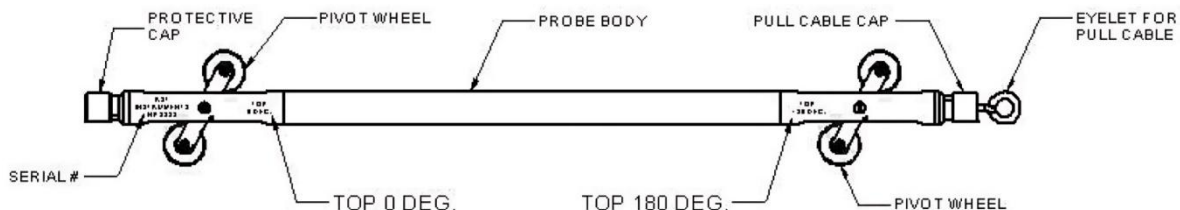

Figure 1: Digital MEMS Horizontal Inclinometer Probe Overview
- Connect the MEMS Horizontal Probe to the reel via the end with the serial number (Top 0 DEG, see Figure 1).